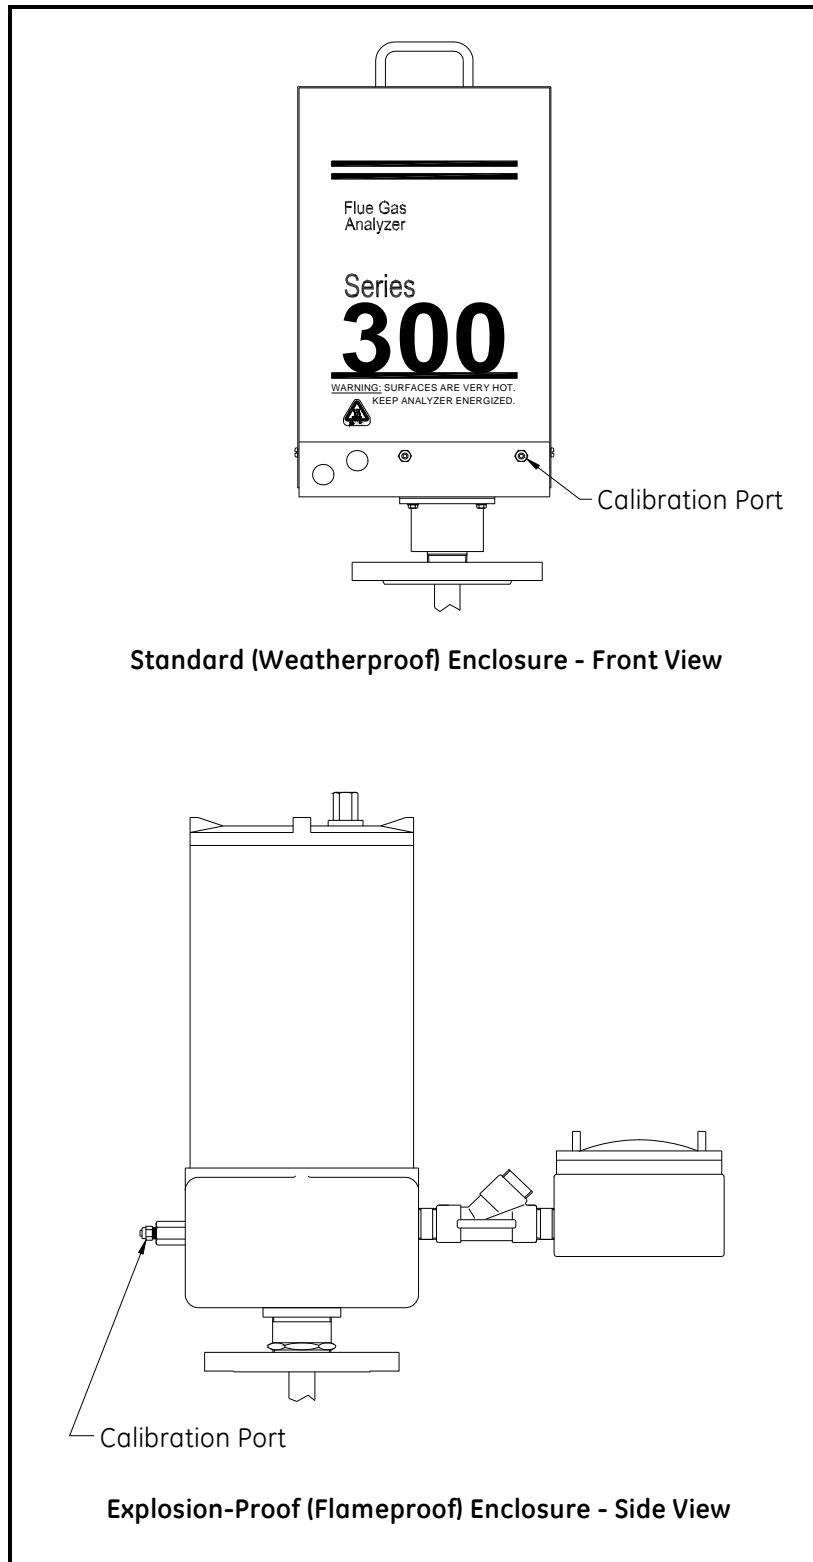

Figure 23: Calibration Port Location
1. Remove the blank (plug) from the calibration gas inlet port. Refer to Figure 23 on page 44 for the location of the calibration inlet port on the Main Analyzer Unit.
1. Introduce a calibration gas mixture, containing a known amount of oxygen, at the tagged flow rate to the Main Analyzer Unit. Refer to Figure 23 on page 44 for the location of the calibration gas inlet port.
**Note:** See Figure 23 on page 44 for the location of the calibration gas port and refer to Regulating the Calibration Gas Flow Rate on page 43 for the correct flow rate.